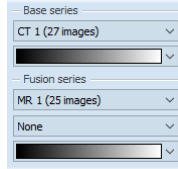

Figure 327 – Series and color map selection
1. Click the **Base series** combo box to select the primary series (see Figure 327).